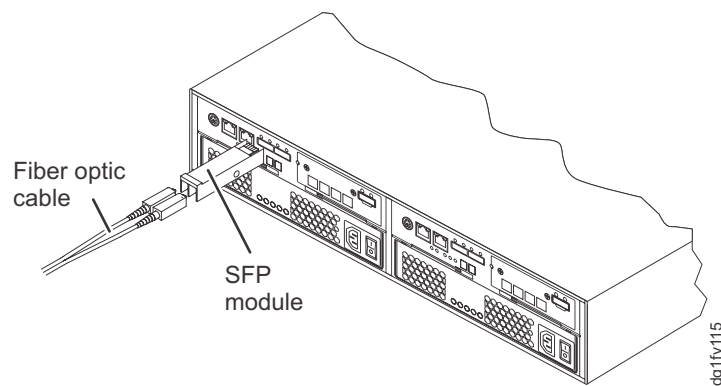

Figure 24. Installing an SFP module into the host port
4. Insert the SFP module into the host port until it clicks into place. See Figure 24.